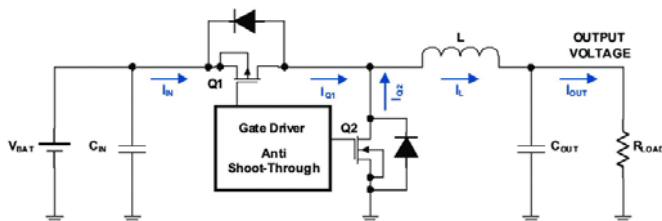

Figure 1: Simplified Synchronous Buck Converter
Figure 1 shows a simplified schematic of a buck regulator featuring the high-side PMOS switch (Q1) and low-side NMOS rectifier (Q2). Each MOSFET also includes a back-gate diode as shown in the diagram.
A buck converter operates by applying a fixed frequency pulse width modulated (PWM) waveform to a low-pass filter composed of an inductor L and an output capacitor COUT. The filter then averages the PWM waveform, resulting in a DC output voltage. For highest efficiency considerations, low voltage DC/DC converters generally use synchronous rectification (SR) schemes for minimizing the conduction loss, refer to Figure 1.